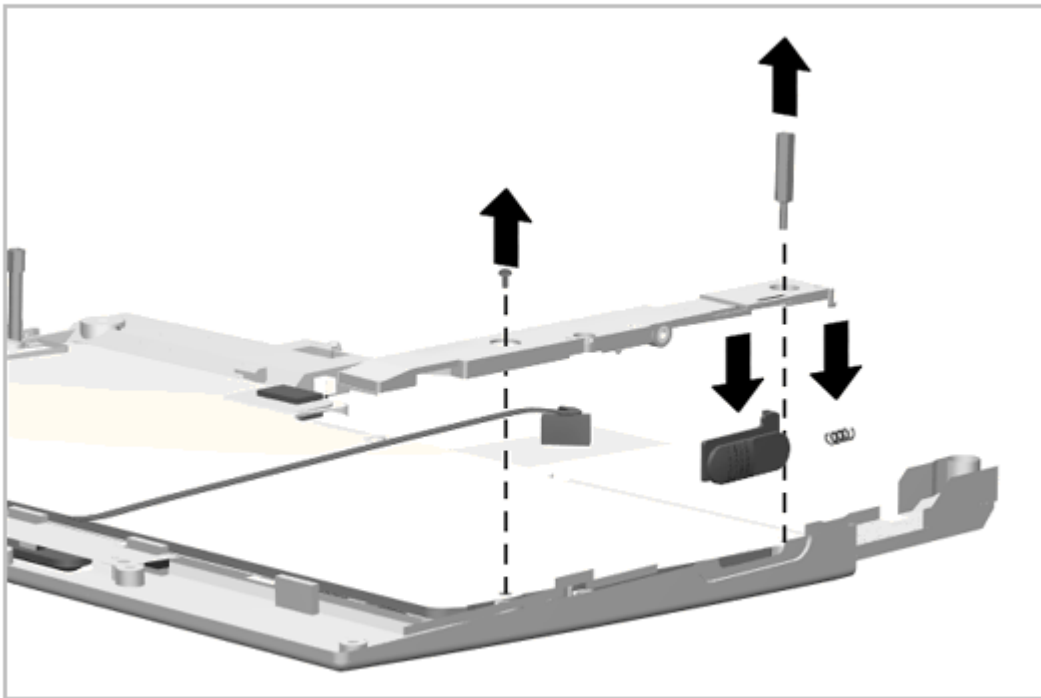

Figure 5-45. Removing the MultiBay Release Assembly
3. Remove the standoff and screw from the release holder (Figure 5-45).
4. Lift out the release holder (Figure 5-45). The release is attached to the holder with its spring.